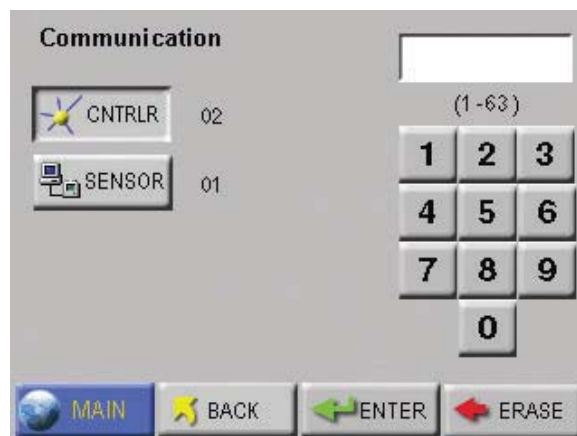

Figure 6-18 Communication Screen
1. Press the COMM button to enter the COMM Address for either the Manifold Controller or the Particle Counter. The Communication screen shown in Figure 6-18 appears.